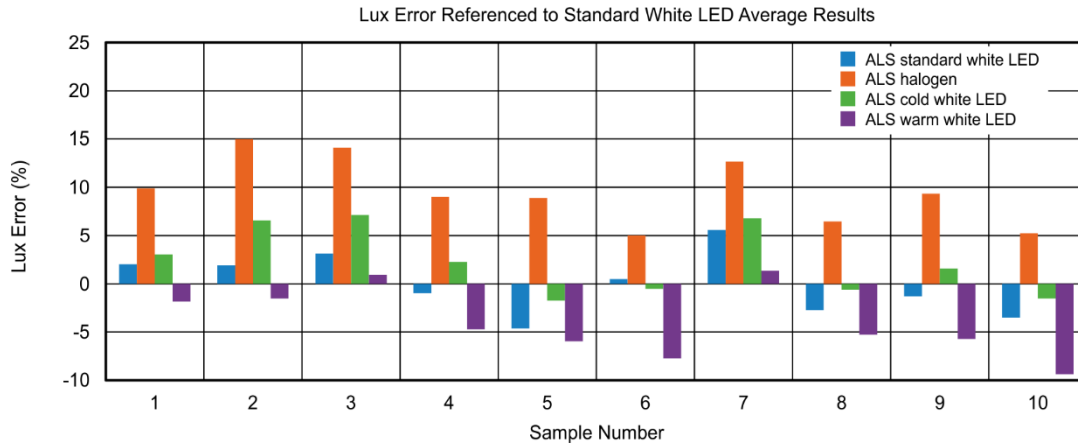

Figure 12: Sensor accuracy
- Typical accuracy: see Figure 12